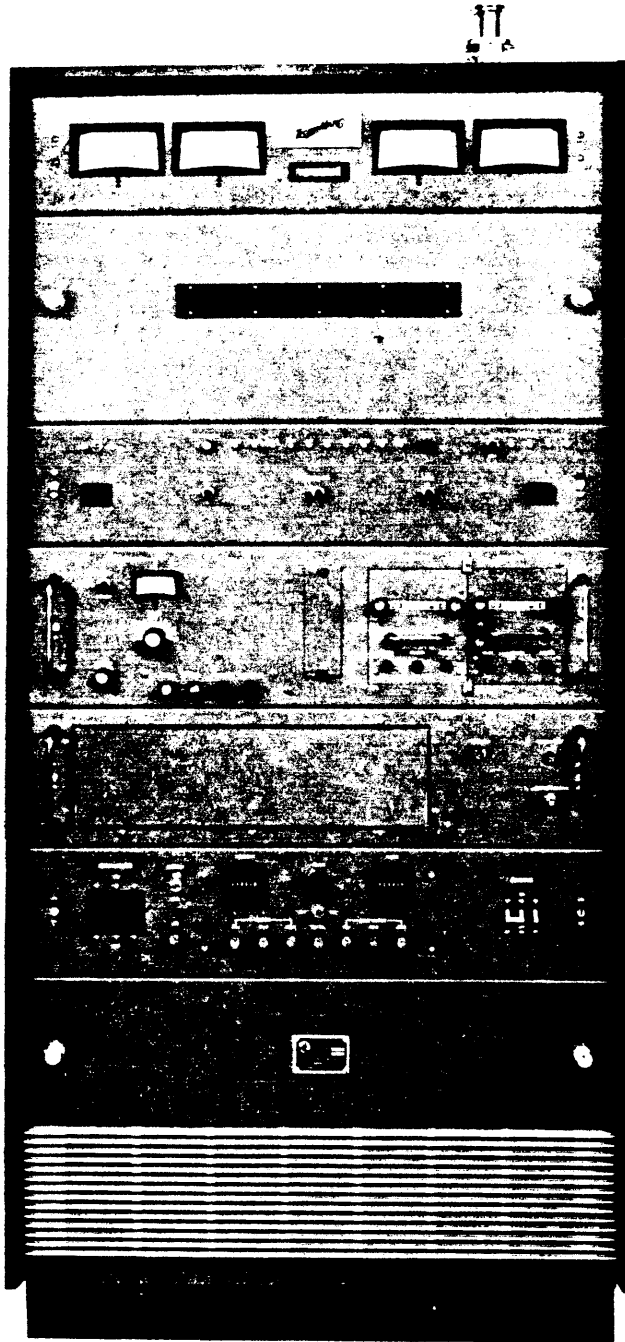

Figure 1-1. Linear Power Amplifier, Model HFL-10K
a. GENERAL. As shown in figure 1-1, the unit consists of a single frame, housing all the components of the transmitter. Primary power connections are made through the access hole on the base assembly. External exciter transmitter control connections are made to the exciter remote assembly. Transmitter r-f power is routed through a directional coupler mounted in the opening located on the top of the transmitter. The transmitter frame houses an exciter drawer,